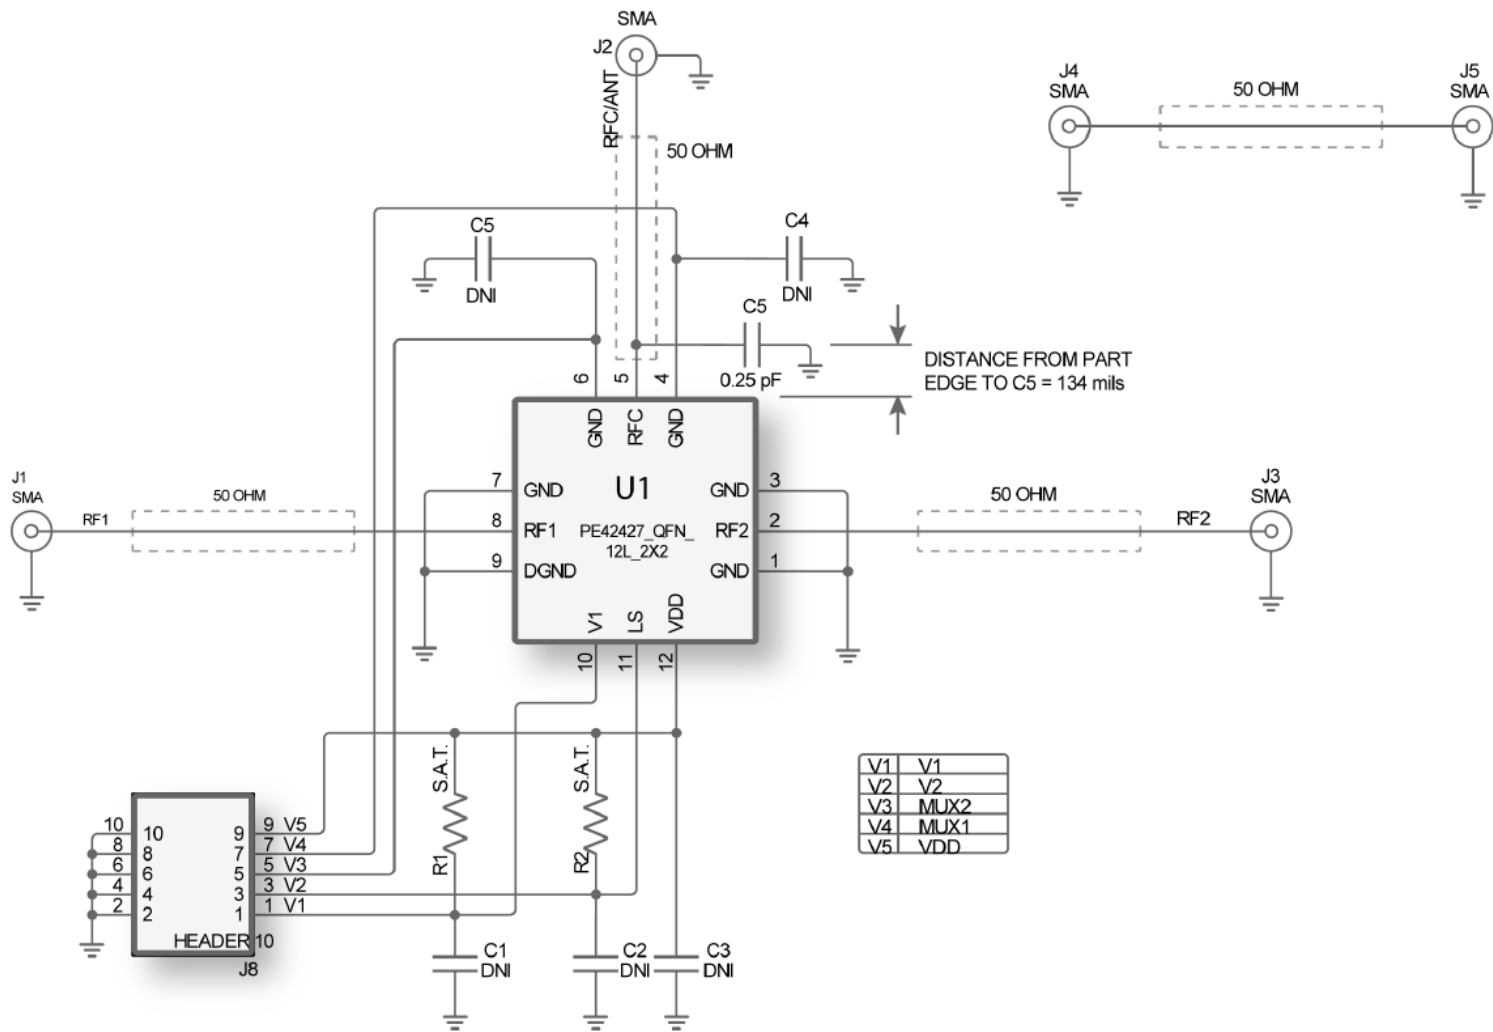

Figure 29. Evaluation board schematic with matching
* External matching improves high-frequency performance. See Figure 20–Figure 25, and Figure 29.
i * External matching improves high-frequency performance. See Figure 20–Figure 25, and Figure 29.
Figure 29 shows the evaluation board schematic with matching.